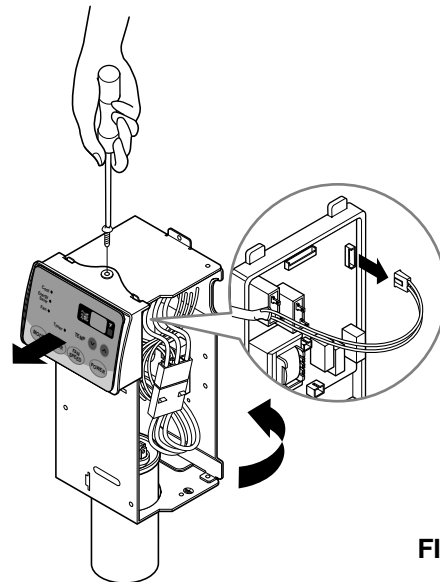

FIG. 37
4. Remove the thermostat. (See Fig. 37)